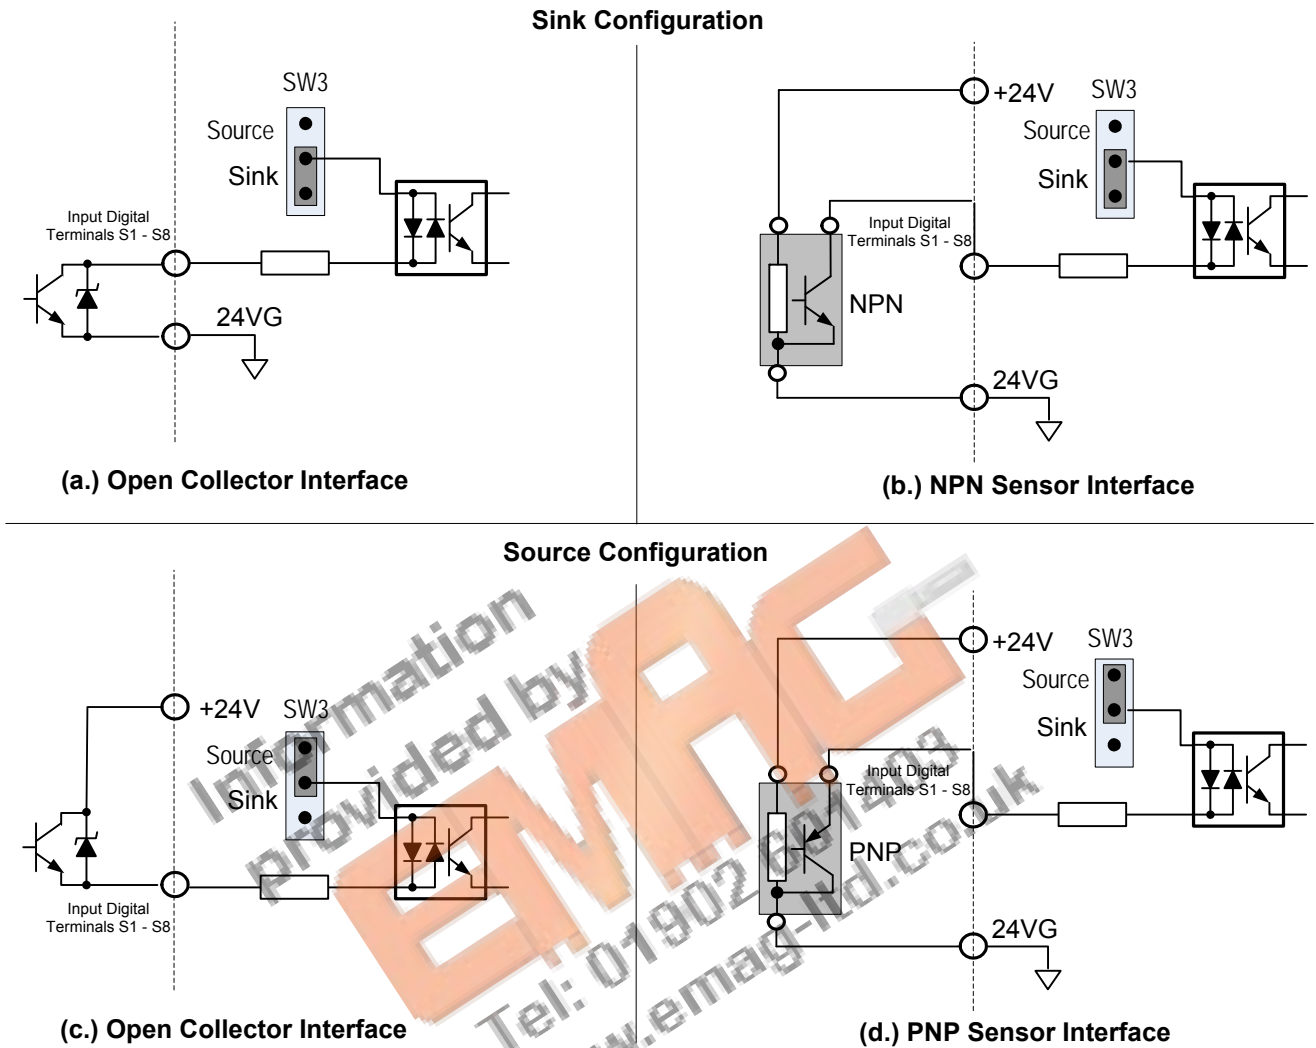

Fig. 3.17.3 Sink / Source Configurations
(5) In Section 3.8 the control boards referenced have a jumper SW3 that can select the digital input to terminals ① - ③ to be set for SINK or SOURCE. The following Fig. 3.17.3 (a.) – (d.) shows examples for the various SINK / Source interfaces.